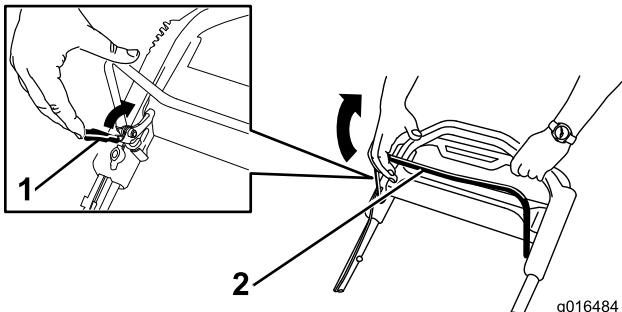

Figure 21
1. Pull the blade-control-bar lock back to the blade-control bar (Figure 21).
2. Slowly pull the blade-control bar back to the handle (Figure 21).